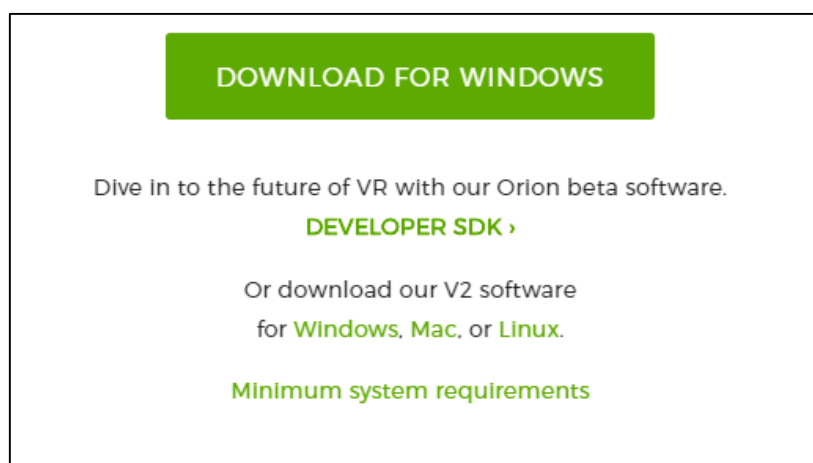

Figure 5.104 Download the Leap Motion driver software for Windows
- The Leap Motion driver software has been obtained. Download the Windows version, as shown in Figure 5.104, from the <https://www.leapmotion.com/setup/desktop/windows>.